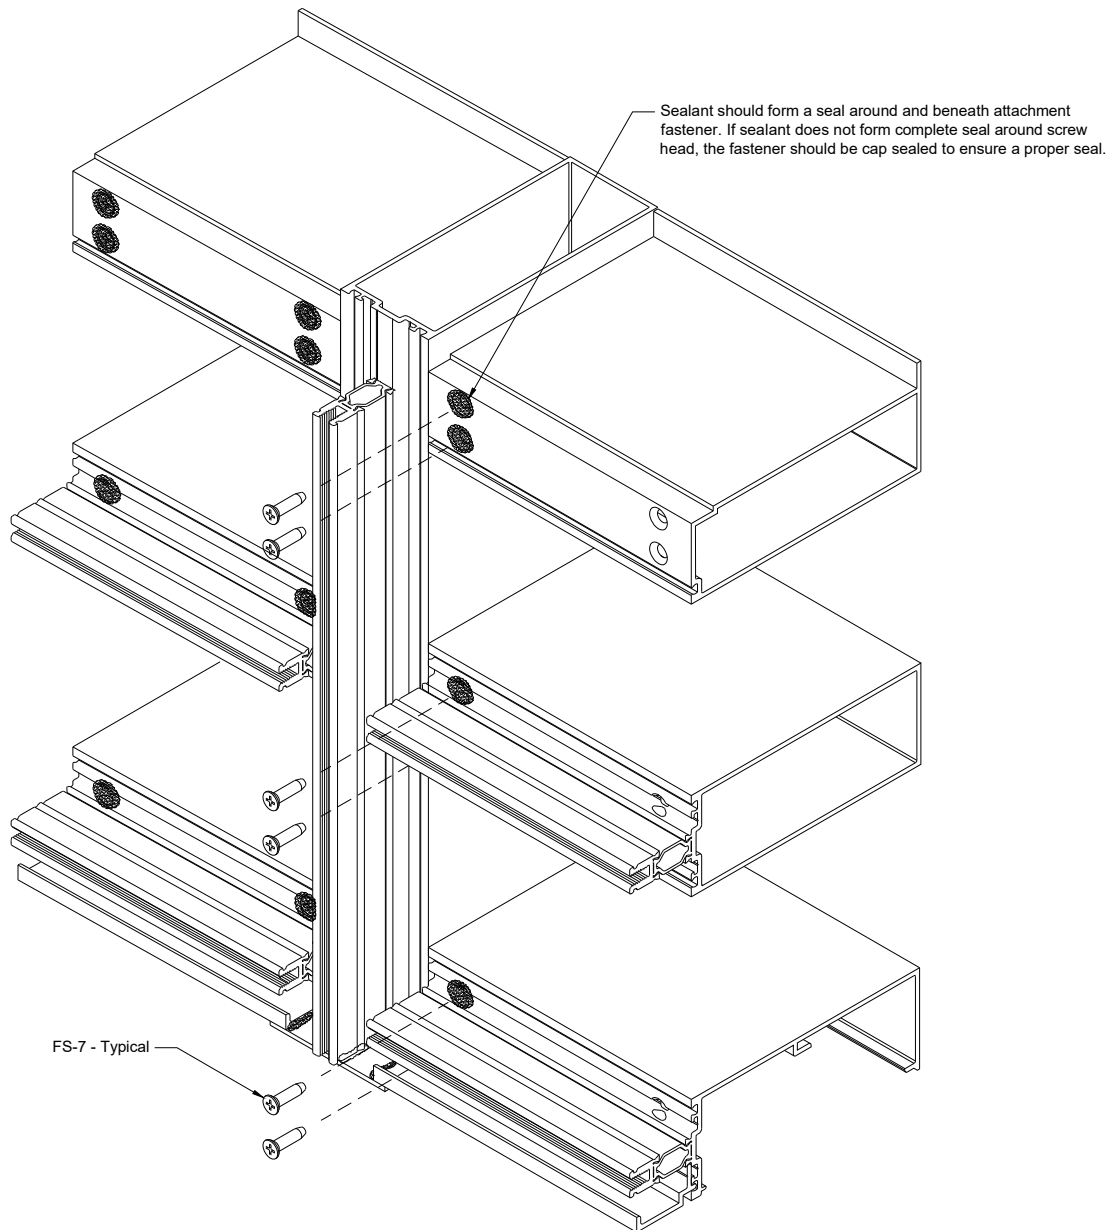

Figure 45: Typical Horizontal Attachment
15.2 Add sealant over the sides of the End Dam. Slide Horizontal in front of the Shear Block and push backward into position, making sure sealant is forced through fastener holes and secure with (2) **FS-7** Fasteners on each end of the member. If sealant is not forced through sealant hole, apply a liberal amount to that hole before installing Fastener. See *Figure 45*. **FS-7** can be cap sealed around the fastener head and in the splines to the left and right of the fastener head.